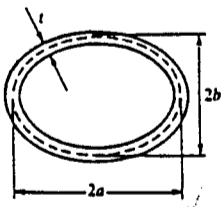

Fig. 3
- A thin-walled tube having an elliptical cross section (see Fig. 3) is subjected to a torque $T=6\text{kN}\cdot\text{m}$. Determine the shear stress τ and the angle of twist θ per unit length if $G=80 \text{ GPa}$, $t=5 \text{ mm}$, $a=75 \text{ mm}$, and $b=50 \text{ mm}$. (Note: The area of an ellipse is πab , and its circumference is approximately $1.5\pi(a+b)-\pi\sqrt{ab}$.) (15%)